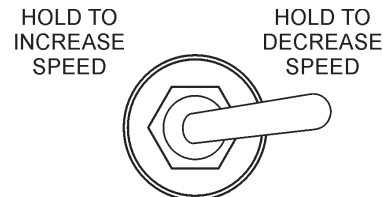

Figure 20. Throttle Control Switch
1. Hold the throttle control switch fully to the **RIGHT** to set the engine speed to **IDLE** (Figure 20).